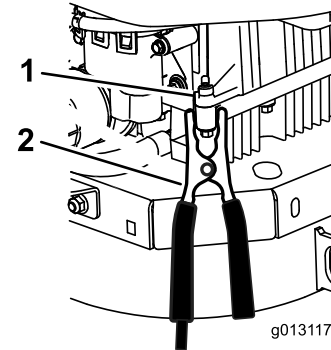

Figure 63
6. Make the final connection on the engine block of the stalled machine (not to the negative battery post), away from the battery, and stand back (Figure 63).